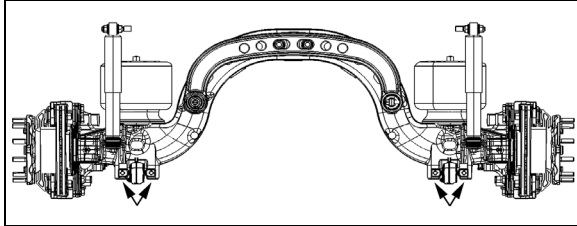

FIGURE 10: JACKING POINTS ON TAG AXLE 11029
3. Install jacks under tag axle jacking points to support the axle weight (refer to figure 10).